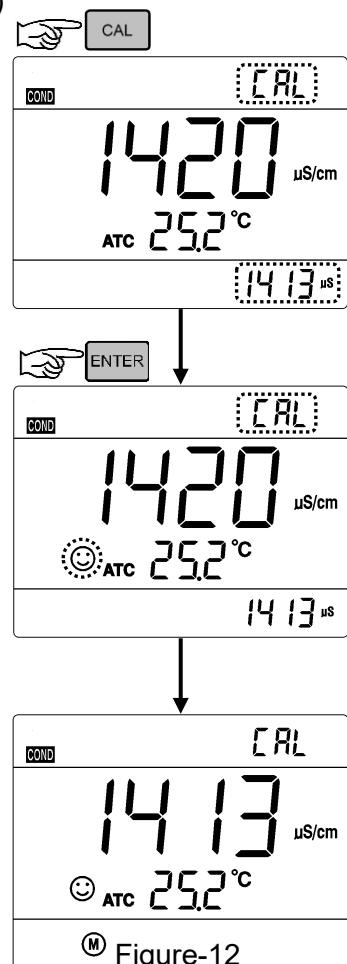

Figure-12
7.4.3 When the meter locks 1413 μS , stable icon  will display on LCD. Press **ENTER** key to complete calibration. End will appear and the meter will return to measuring mode and **M** is displayed on bottom left of the LCD screen. See figure-12.